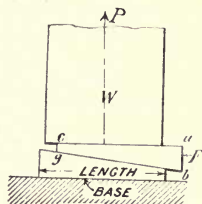

FIG. 28.—Lifting Power of Wedge.
**44. Application of the Principle of the Wedge.**—Just as the power of the inclined plane is proportional to the height and length of the plane, so is the power or force applied to the wedge proportional to its height and length. In this latter case, however, the length is the horizontal length or base *ac* (Fig. 28) and not the sloping face *bg*. By the principles of similar triangles, we can easily prove that when a force acts in a direction parallel to the base of a wedge, the
On the inclined plane previously described the force acts in a direction parallel to the plane; that is, the cord attached to the ball pulls up the plane. In Fig. 28 a weight  $W$  is being lifted by driving two single wedges. To raise the weight we must strike or push on the face of either one of the wedges, as at  $F$  on the face  $ab$ . This force acting parallel to the base  $ac$  of the wedge causes a pressure  $P$  in a direction at right angles to the base.